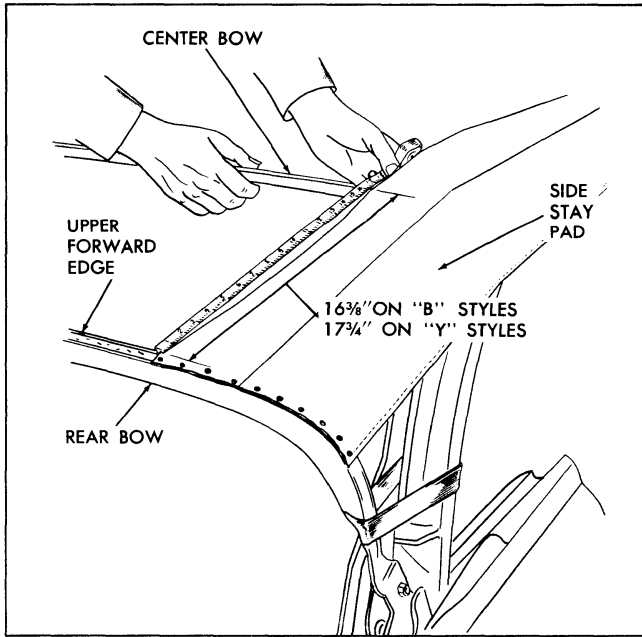

Fig. 22-38 Position of Rear Bow
4. Trim selvage end of side stay pads just forward of rear rolled edge of rear roof bow (Fig. 22-38).